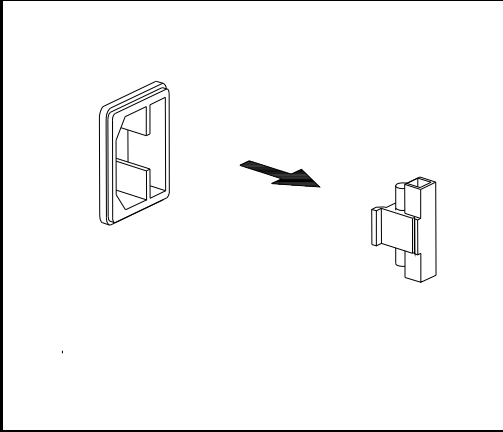

**Figure 1-1. Line Voltage Selector (set for 115Vac)**
- 3 Set two sections of the line voltage selector switch on the PC board for the desired line voltage (See Figure 1-1 below).